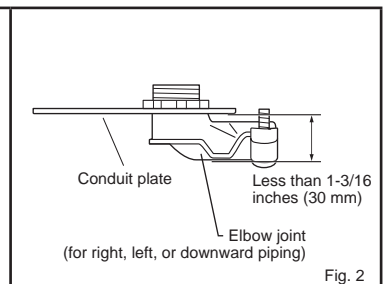

Fig. 2
- Attach conduit pipe (for rear piping) / elbow joint (for right, left, or downward piping) to conduit plate with lock nut. The thread of the installed conduit pipe / elbow joint appearing inside should be less than 3/8 inch (10 mm). (Fig. 1) Elbow joint should appear less than 1-3/16 inches (30 mm) outside. (Fig. 2)
- Place the refrigerant piping and the drain hose together, then firmly apply felt tape (4) from the end.
- Felt tape (4) overlap width should be 1/3 the tape width. Use a bandage stopper at the end of felt tape (4).
- Pull out the drain hose at the back left of the indoor unit. (Fig. 2)
- The drain hose should point downward for easy drain. (Fig. 2)